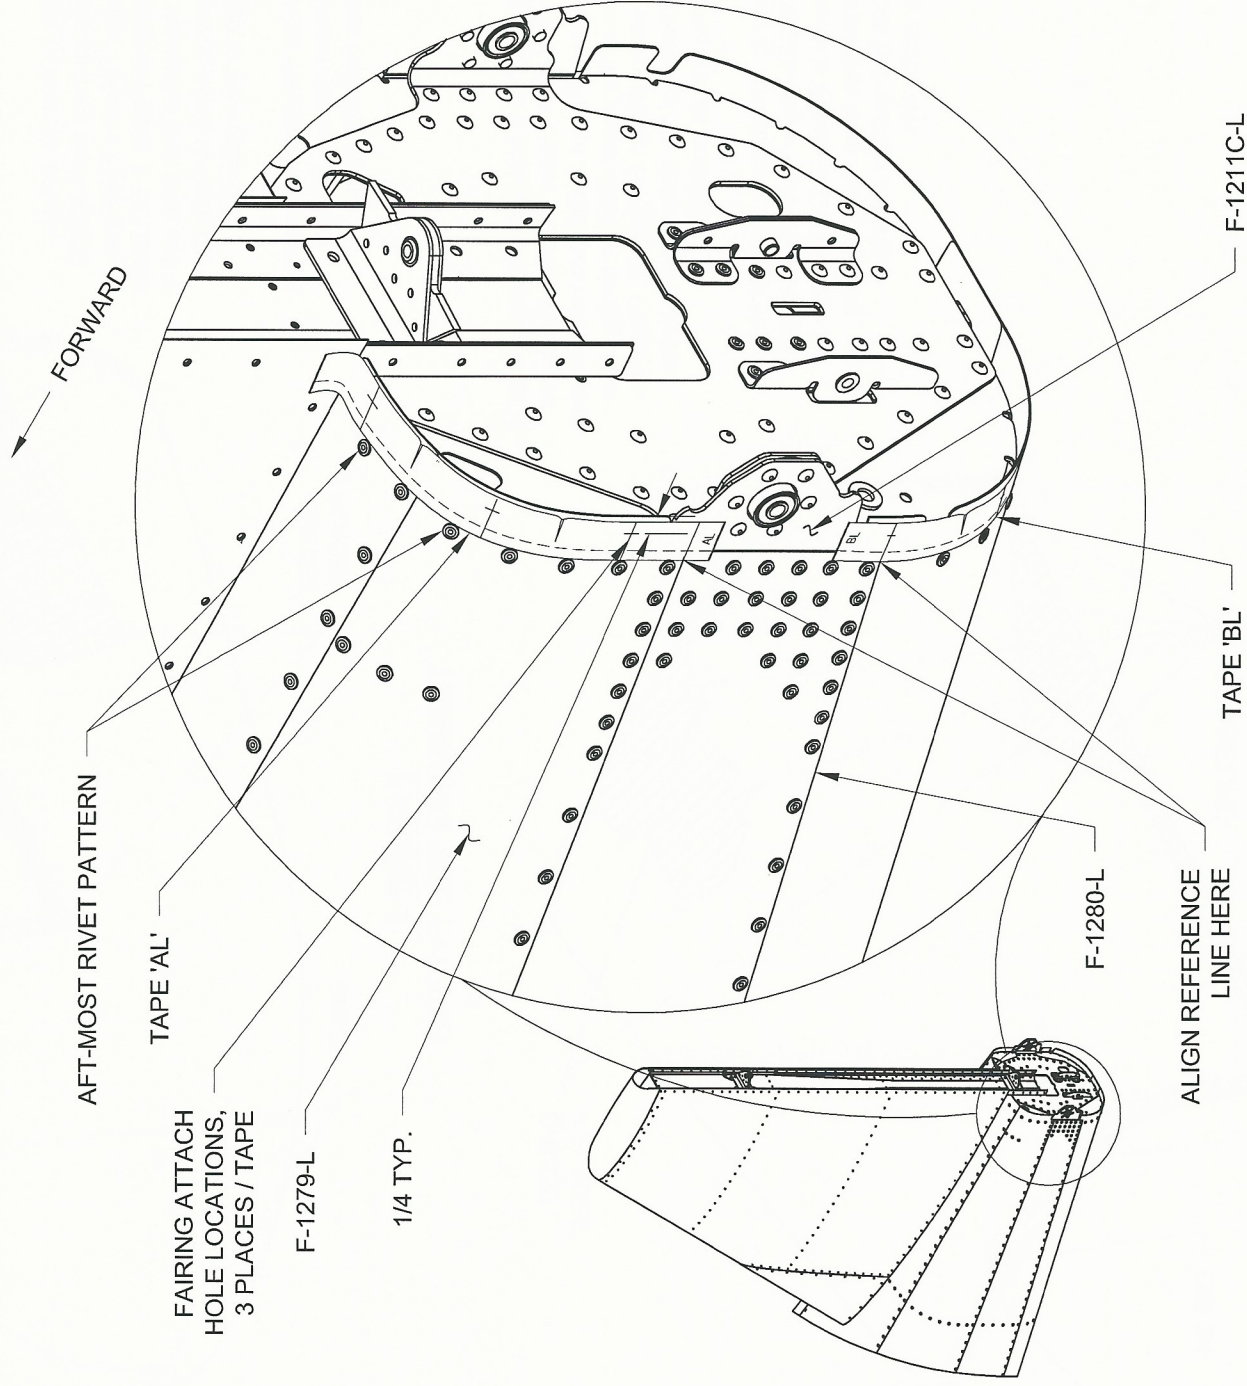

FIGURE 3:
Step 3: Place the forward end of the reference line of tape 'AL' on the lower edge of the F-1279-L Upper Corner Skin. Align the forward edge of the masking tape along the manufactured heads of the aft-most rivet pattern on the tailcone as shown in Figure 3. Gather wrinkles in the aft edge of the tape between the fairing attach hole marks.
Step 4: Place the forward end of the reference line of tape 'BL' on the lower edge of the F-1280-L Side Skin. Align the forward edge of the masking tape along the aft-most rivet pattern on the tailcone as shown in Figure 3. Gather wrinkles in the aft edge of the tape between the fairing attach hole marks.
Step 5: Measure and mark the dimension given from the aft edge of the tailcone skins, at each fairing attach hole location as shown in Figure 3.
Step 6: Measure and mark the dimension given from the aft edge of the tailcone skins, at each fairing attach hole location as shown in Figure 3.